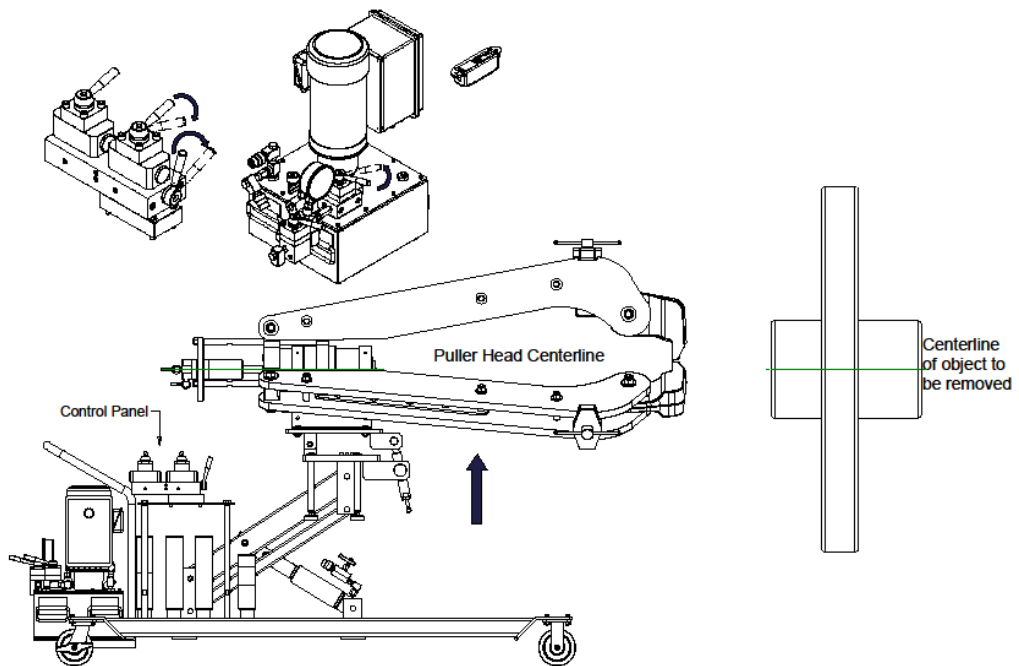

Figure 2 – Puller Alignment
- 5.2.1 Use the control panel as shown in Figure 2 to adjust the trolley's vertical alignment. The centreline of the work piece must be on the same centreline as the puller head.